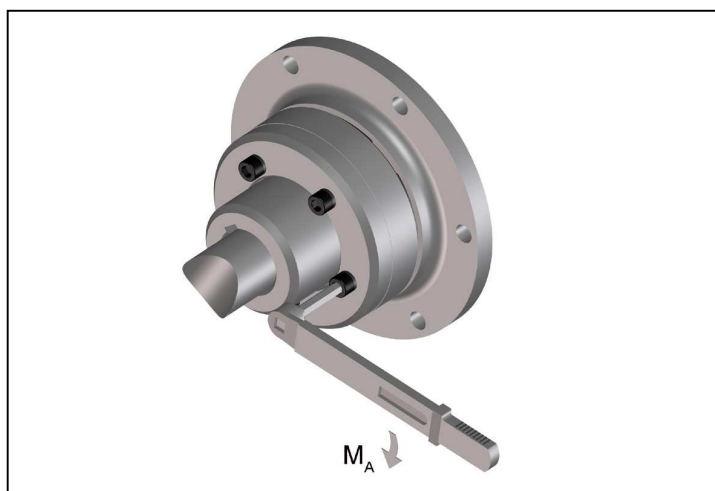

Fig. 11
- Tighten the claw ring screws to the tightening torque M_A specified in table 9 (Fig. 11).